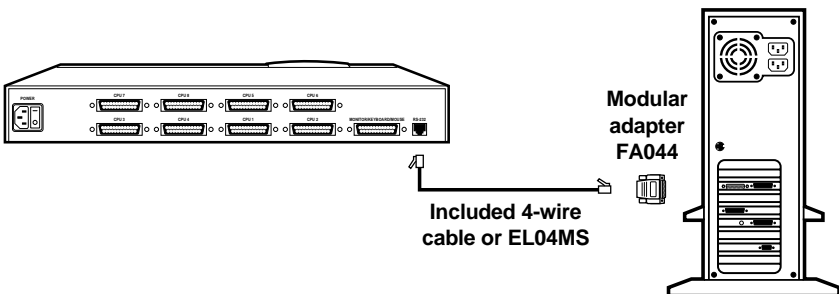

Figure 13. RS-232 connection to DB25 male computer port.
- If you are connecting the Switch directly to a **DB25 male**  **computer** serial port, use the 4-wire cable that came with the Switch and the DB25 female adapter **FA044**, as shown in Figure 13. (If you lose the cable, you can replace it with our product code **EL04MS**.)